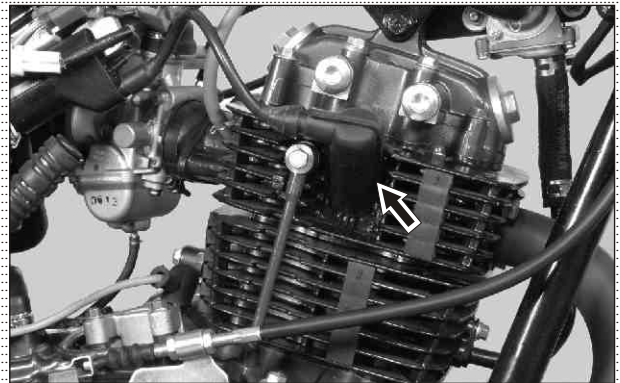

Fig. 3.27
- Disconnect HT cord from the spark plug and remove spark plug. (Fig. 3.27)